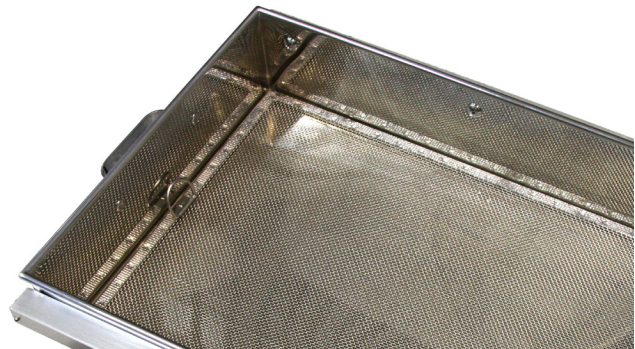

Figure 5. Debris Screen Installed
1. Place the Debris Screen into the Uro Tray with the D ring facing up (Figure 5).